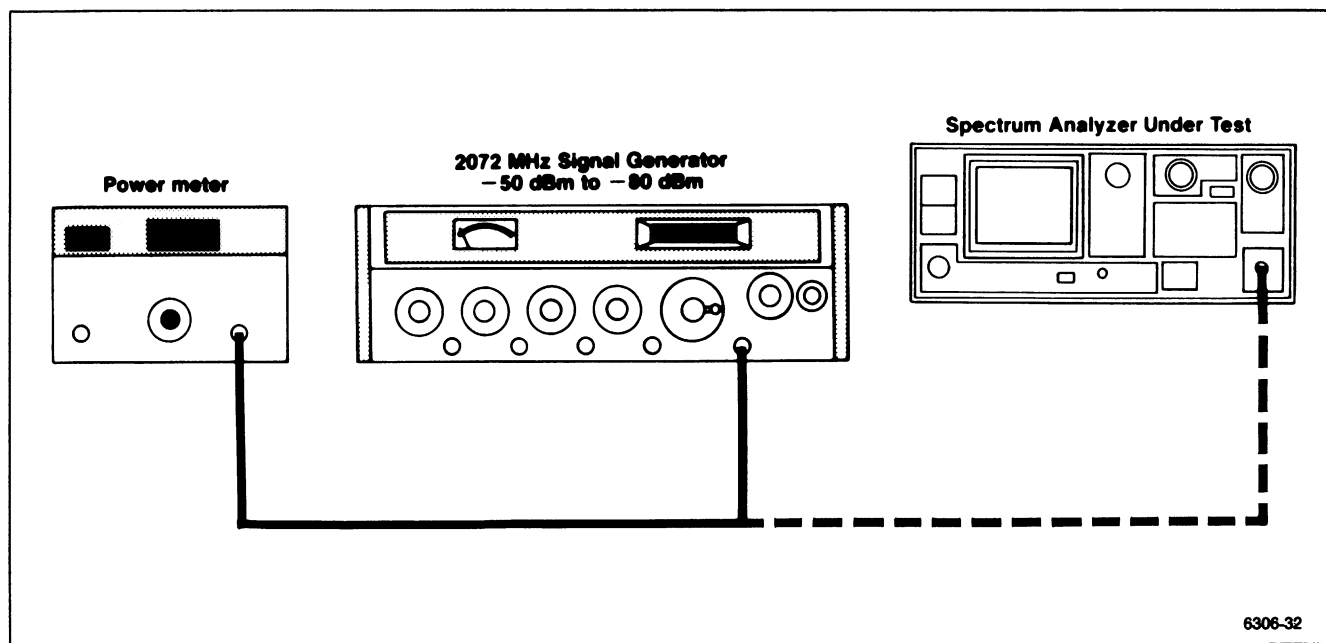

Figure 6-22. Test equipment setup for baseline leveling adjustment.
3. Connect the test equipment as shown in Figure 6-22. Set the ALC switch on the RF plug-in to MTR position. Set the Power Level for a 4-division excursion (approximately -10 dBm), then adjust the ALC gain on the Sweep Oscillator for stable operation (output stops oscillating).